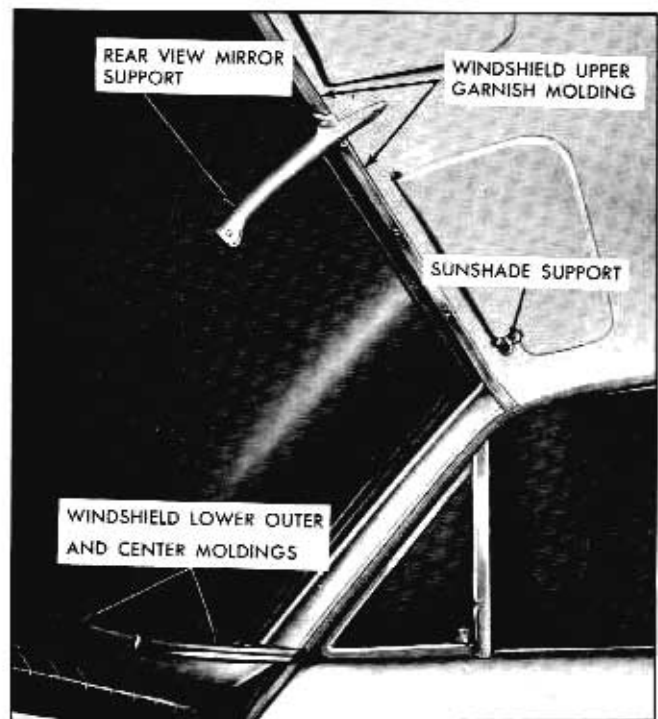

Fig. 10A-8 Garnish Molding Attachment
The windshield garnish moldings consist of upper right and left moldings, lower center molding and right and left lower outer moldings. The lower outer moldings must be removed prior to removing the lower center molding. All moldings are secured by screws (Fig. 10A-8).
1. Remove screws securing mirror support and remove support (Fig. 10A-8).